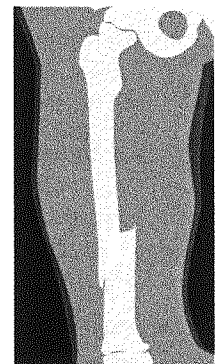

Figure 2.
2. Look at the X-ray in Figure 2 and determine which type of femoral shaft fracture is shown.